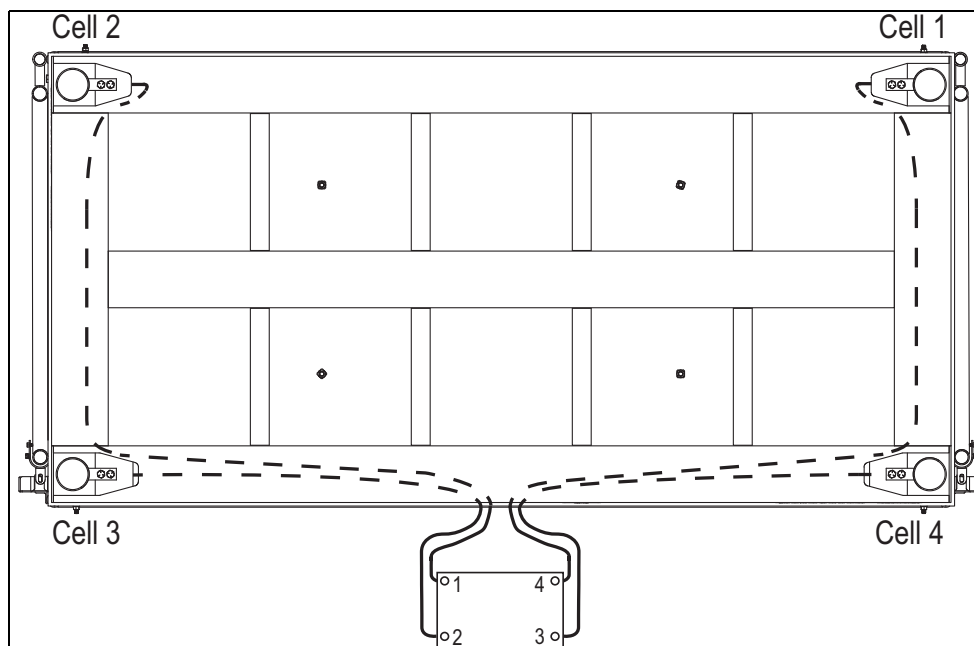
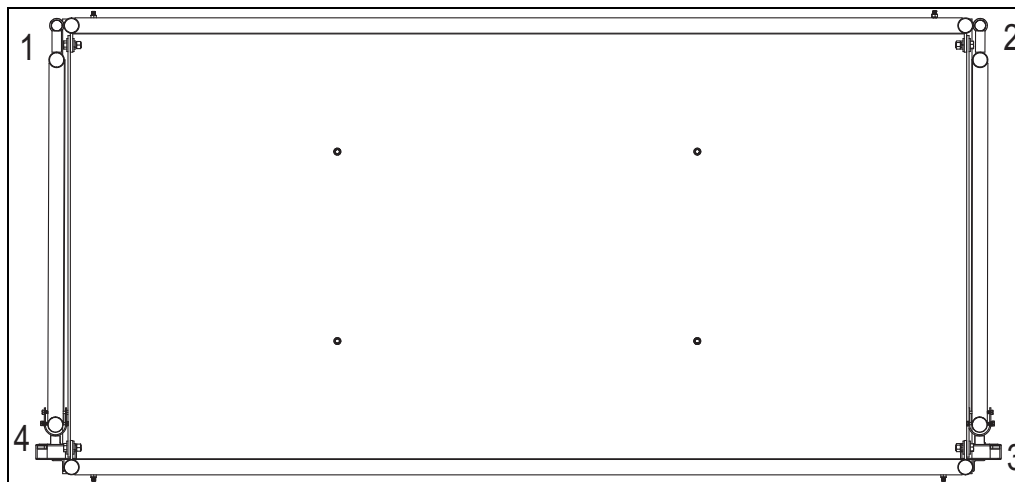

Figure 4-2. Bottom View of Scale
Figure 4-4. Corner Numbering - Top View
1. Remove the junction box cover and identify correct load cell terminal corresponding to each corner (labeled CELL 1, CELL 2, and so on). See Figure 4-4 on page 12 for scale deck corner numbering.
4. Thread the cable from each load cell through the conduit tubing in the frame and into the junction box according to the wiring diagram in Figure 4-2.
**Note** In Figure 4-2 both the scale and the junction box are viewed from the bottom. To verify correct load cell/junction box terminal matching, see the numbers on the terminals inside the junction box and the corner numbering diagram in Figure 4-4 on page 12.
The four load cells are each wired to their respective terminals in the junction box according to the corner numbering system shown in Figure 4-4, and the coloring code in Table 4-2.